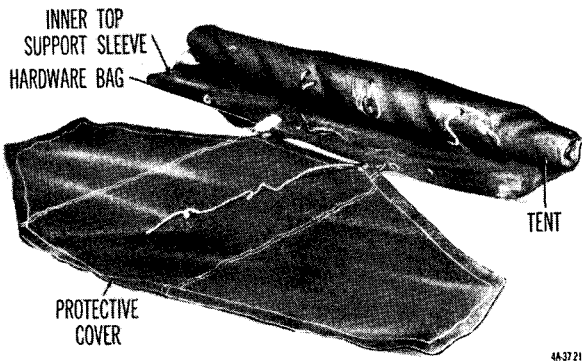

Figure 88. Folding tent, maintenance, missile test shop.
- (3) Remove the tent from the frame, and fold the tent on top of the electrical equipment cabinet.
- (4) Remove end top supports from the inner and outer top support elbows.
- (5) Remove outer top support from diagonal end supports.
- (6) Remove diagonal end supports from the support brackets on the trailer.
- (7) Remove the tent inner top support from the top of the electrical equipment cabinet.
e. *Folding* (fig. 88).
- (1) Close personnel access door and lay tent out flat, inside up.
- (2) Fold tent sides onto the tent, and roll tent toward inner top support. Insert
- (1) Remove footstops and guy lines from tent pins, and remove all tent pins from the ground.
- (2) Release sidewall slide fasteners from around trailer drawbars.
- (3) Untie and remove tie tape drawstrings from openings in leveling jacks.
- (4) Remove tent sidewalls from radar cabinet turnlock fasteners.
- (5) Remove lunette support from trailer lunette and from outer top support.
- (6) Remove diagonal side supports from trailer U-channels and from outer top support.
- (7) Unfasten tent tiedown tabs, and remove top outer support from the tent.
- (8) Remove tent inner top support from the top of the radar set group cabinet, and remove the tent from the radar.
e. Folding (fig. 88).
- (1) Close all slide fasteners and lay tent out flat, inside up.
- (2) Fold tent sides onto the tent, and roll tent toward inner top support. Insert a section of the frame with each roll. Insert the hardware bag before the last roll of the tent.
- (3) Place rolled tent on cover and secure cover with the provided ropes.
- (1) Remove footstops from footstop pins, and remove the pins from the ground.
- (2) Remove tent short wall and tent side-walls from turnlock fasteners.
- (3) Remove diagonal side supports from U-channels of the pallet and from the tent outer top support.
- (4) Unfasten tent tiedown tabs, and remove the top outer support from the tent.
- (5) Remove the tent inner top support from the top of the radar set group cabinet, and remove the tent from the radar.
- (2) Fold tent sides onto the tent, and roll tent toward inner top support. Insert a section of the frame with each roll. Insert the hardware bag before making the last roll of the tent.